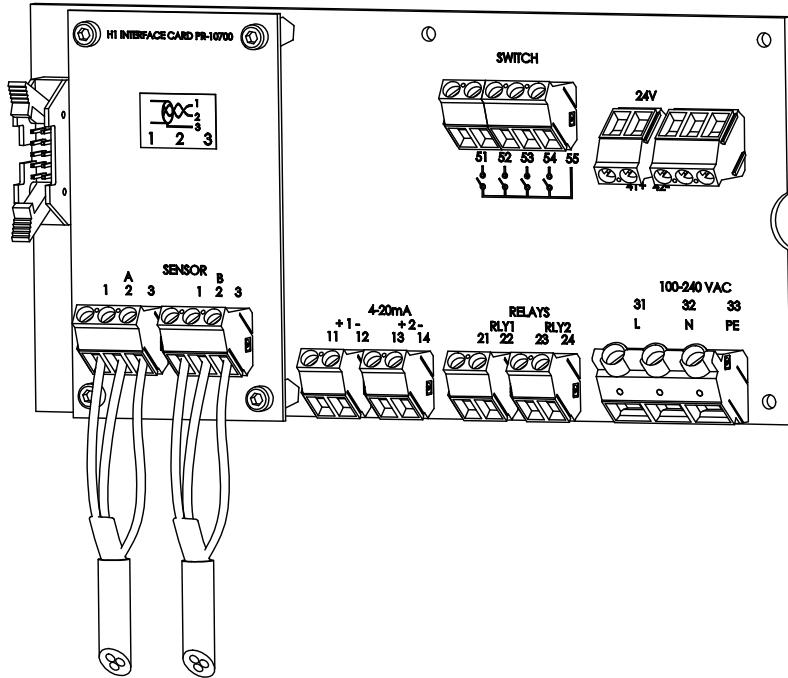

Figure 3.7 The Motherboard of the Indicating transmitter
The cable contains a pair of twisted signal wires (1, 2) and a cable shield (3) (see Section 3.3.2 and Figure 3.7). Standard delivery is 10 meters (33 feet) of cable. The maximum length of an interconnecting cable is 200 m (660 ft). The signal wires (1, 2) are interchangeable (non-polarized). The cable shield is connected to the protective earth at the Indicating transmitter.
Description of the terminals on the H1 interface card PR-10701 and on the Transmitter motherboard PR-10600 (Figure 3.7):
The primary AC power is connected to a separate terminal strip 31/32/33 marked POWER in the lower right-hand corner of the Motherboard (Figure 3.7). The three terminals are marked 31/L, 32/N and 33/PE (protective earth). The power terminal 33/PE is directly connected to the exposed metal parts of the Indicating transmitter DTR.